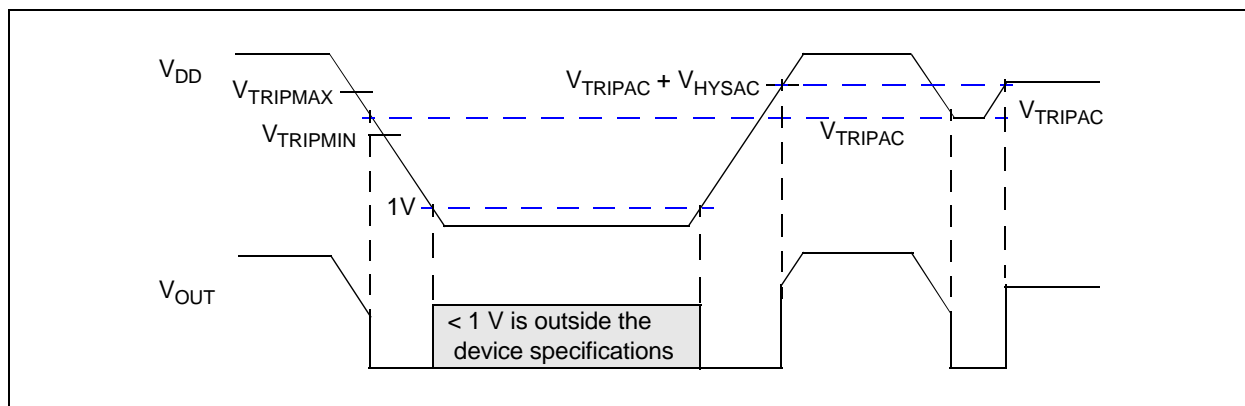

**FIGURE 4-1:** Typical Application Circuit.
**Note:** Unless otherwise indicated, all limits are specified for  $V_{DD} = 1V$  to  $5.5V$ ,  $R_{PU} = 100\text{ k}\Omega$  (only **MCP111**; see **Figure 4-1**),  $T_A = -40^\circ\text{C}$  to  $+125^\circ\text{C}$ .
**Note:** Unless otherwise indicated, all limits are specified for  $V_{DD} = 1V$  to  $5.5V$ ,  $R_{PU} = 100\text{ k}\Omega$  (only MCP111; see Figure 4-1),  $T_A = -40^\circ\text{C}$  to  $+125^\circ\text{C}$ .
For many of today's microcontroller applications, care must be taken to prevent low-power conditions that can cause many different system power problems. The most common causes is a brown-out condition, where the system supply drops below the operating level momentarily. The second most common cause is when a slowly decaying power supply causes the microcontroller to begin executing instructions without sufficient voltage to sustain SRAM, thus producing indeterminate results. Figure 4-1 shows a typical application circuit.
A 0.1  $\mu\text{F}$  bypass capacitor, mounted as close as possible to the  $V_{DD}$  pin, provides additional transient immunity (refer to Figure 4-1).